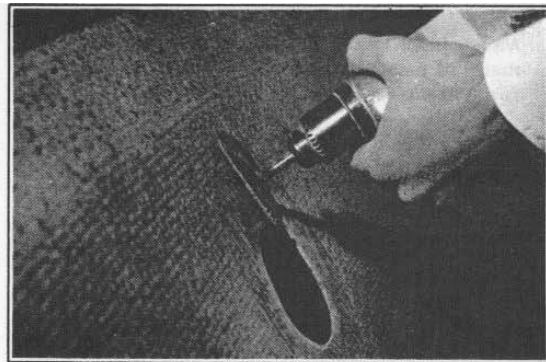

Figure 2-81. Rough Sanding Inside Surface
3. Rough sand the inside surface, using 80-grit dry sandpaper, feathering back about two inches all around the hole in the area the patch will touch. See Figure 2-81.